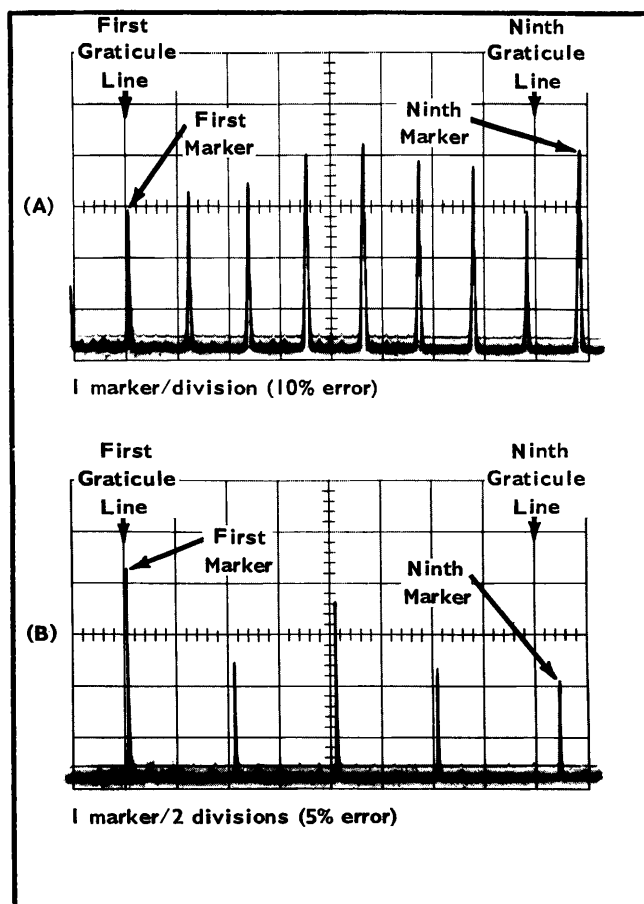

Fig. 6-5. Typical Dispersion accuracy displays (Step 2).
marker. If the display should have 2 divisions/marker, then check the displacement of the fifth marker from the ninth line. (See Fig. 6-5.)
- At each DISPERSION/CM setting of Table 6-1, readjust the front-panel DISP CAL adjustment to align markers with the first and ninth graticule lines. (See Fig. 6-5.) The IF CENTER FREQ controls may be rotated slightly away from center to position a marker at the first graticule line.